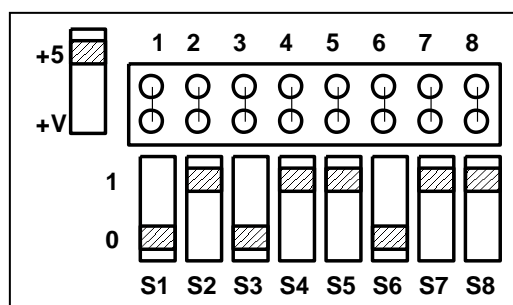

Figure 5 *Logic Switches on Proto-Board*
There are eight digital logic switches (SW1 to SW8) built on the bottom left of your Proto-Board as shown in Figure 5 and each one is able to apply logic levels of 0 and 1 to the connected digital circuits. Another switch is assigned to change the voltage levels of the logic signals from +5(V) to +V(V) depending on what power supply source is connected to your circuit. During the experiments, it is necessary to turn the switch to the “+5 V” position.